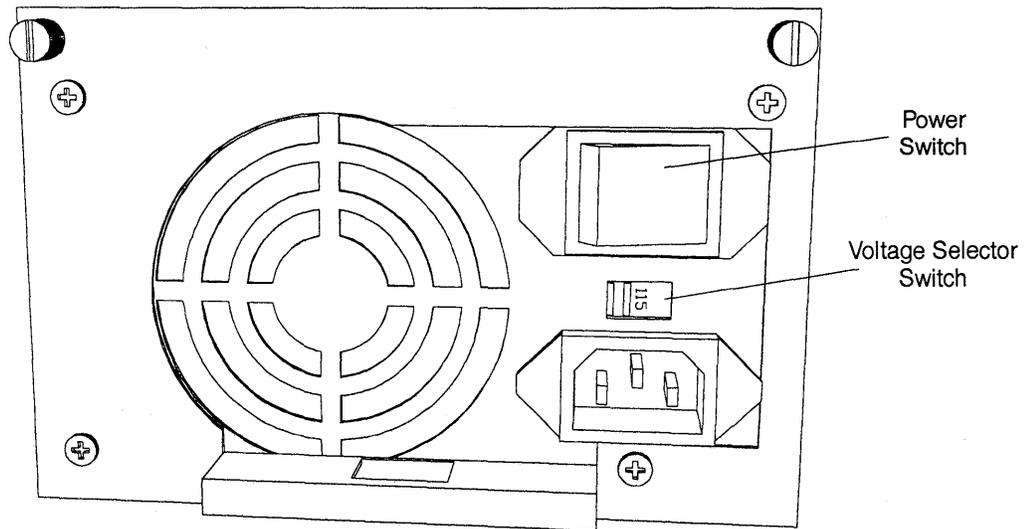

Figure 1-13: Location of voltage selector and power switches
- 1 Set the voltage level switch on both power supplies to the appropriate value (115 volts or 230 volts) for your power system. See Figure 1-13 .